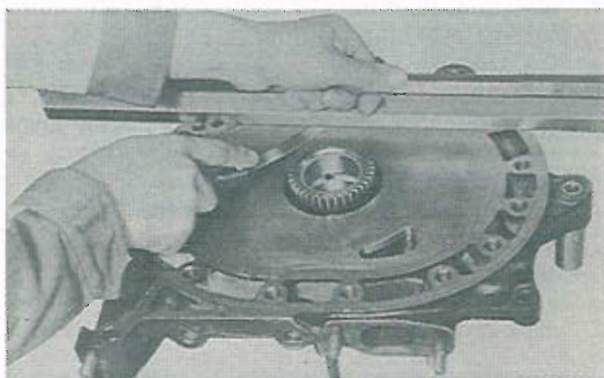

Fig. 1-38 Checking of front housing distortion
4. Check for housing distortion by placing a straight edge on the housing surface. Measure the clearance between the straight edge and the housing surface with a feeler gauge, as shown in Fig. 1-38. If